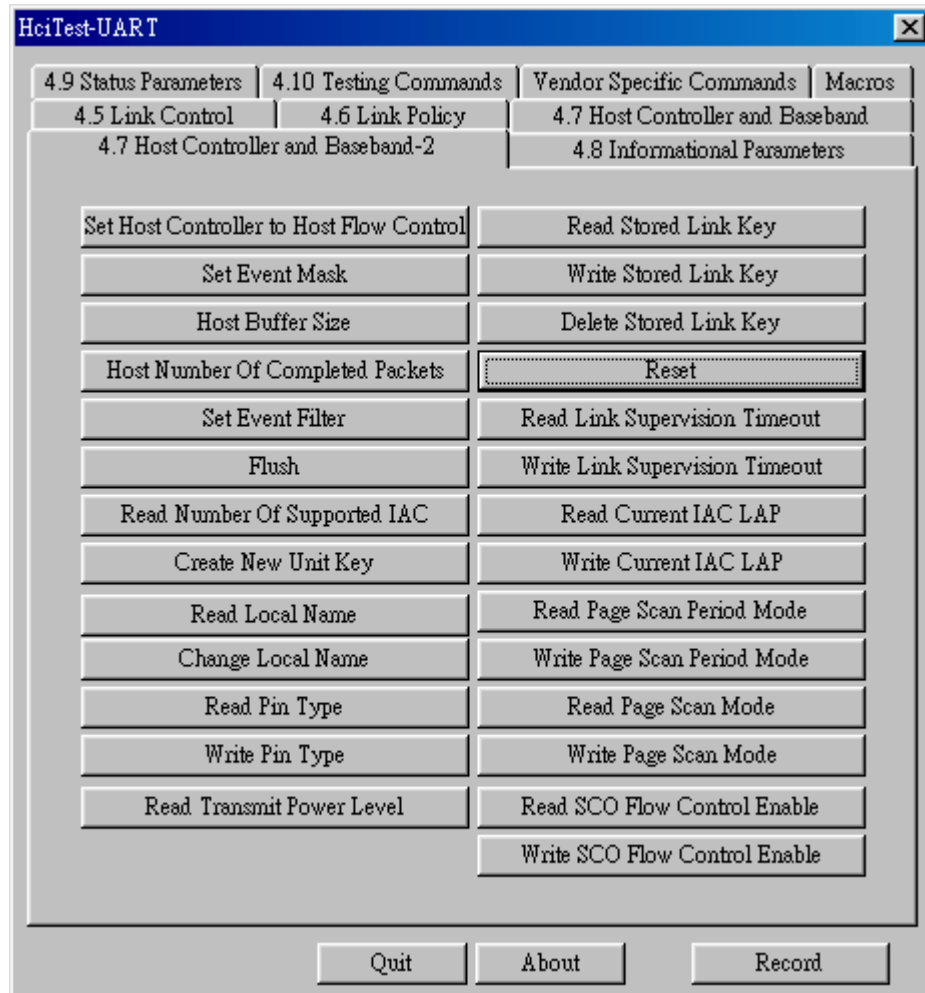
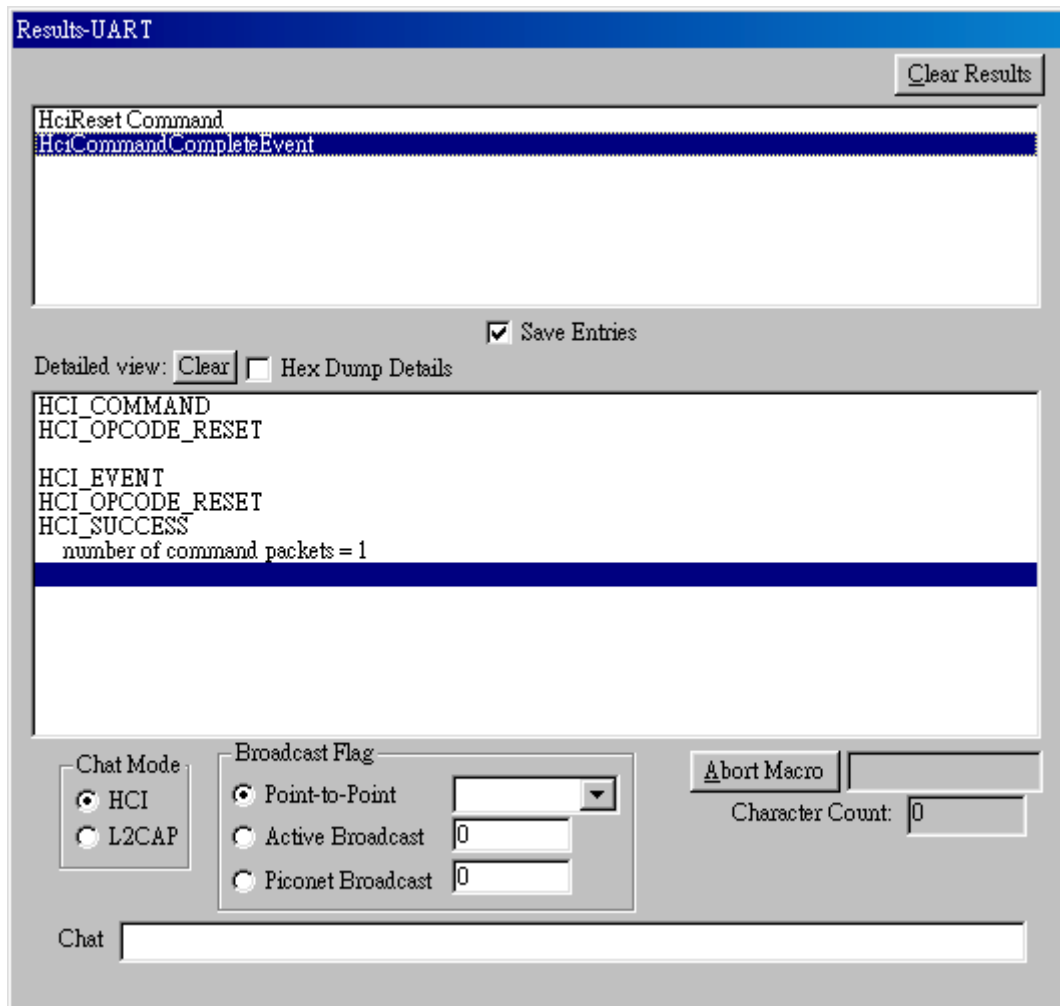

Figure 10: Click on Reset
Figure 11: Show test result
4. On both computers, select “**4.7 Host Controller and Baseband-2**” box, then click on the **Reset** button. (as Figure 10), The user can see result from the “**Result**” Window (as Figure 11)